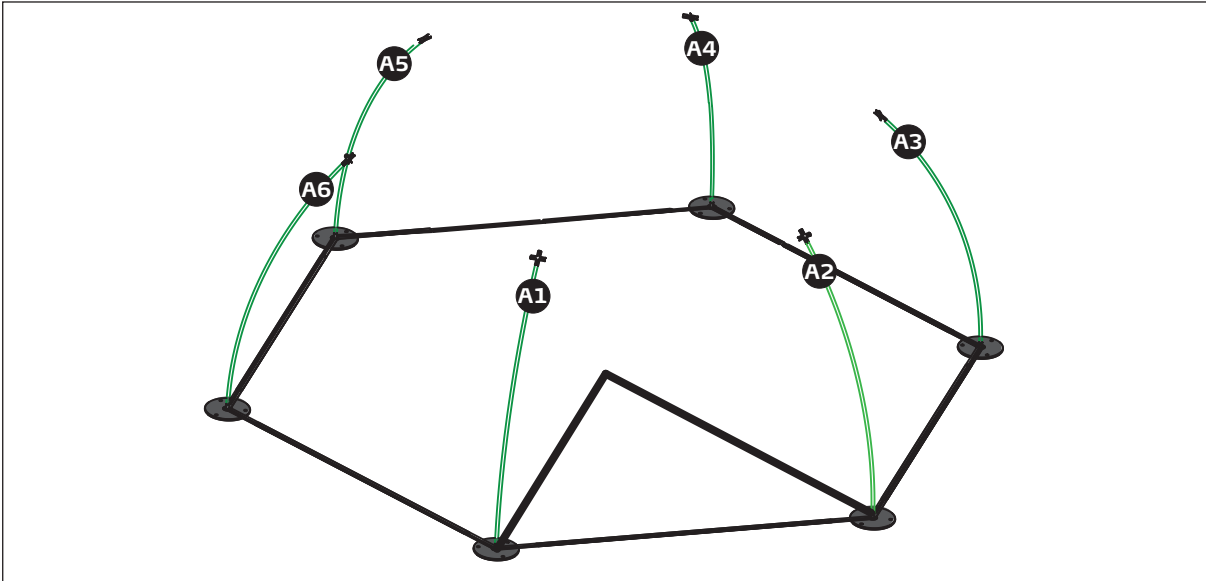

Fig. 9. The A-layer vertical poles mounted in the feet.
3. Repeat steps 1 & 2 for the poles A2 to A6 in counterclockwise sequence, as shown in Fig. 9.